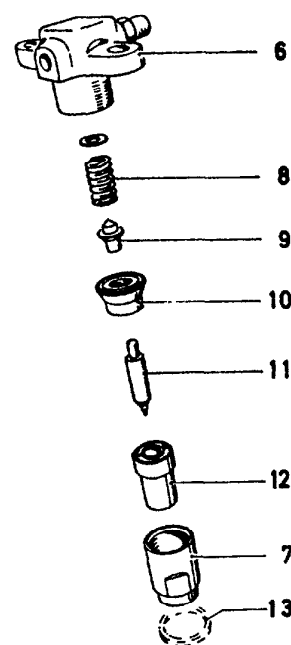

Fig 45
5. Re-assemble the injector body as shown in fig 45. Make sure that item (9) is fitted with its shorter spigot towards the spring.